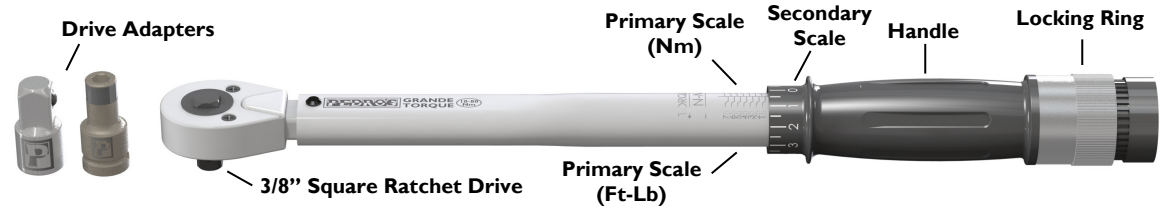

FIGURE 1
1. Locate the locking ring on the handle and pull downward to unlock. See figure 1.